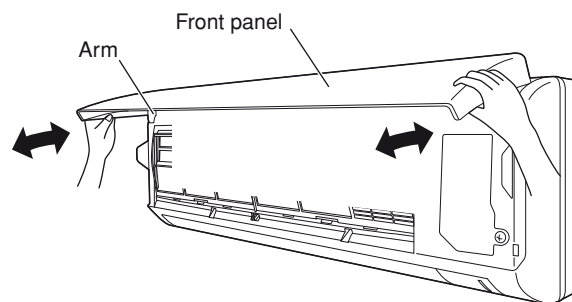

Fig. 16-1
- (1) Open the front panel until it is nearly horizontal, grasp the sections near the front panel arms on both sides, and then pull towards you to remove the front panel. (Fig. 16-1)